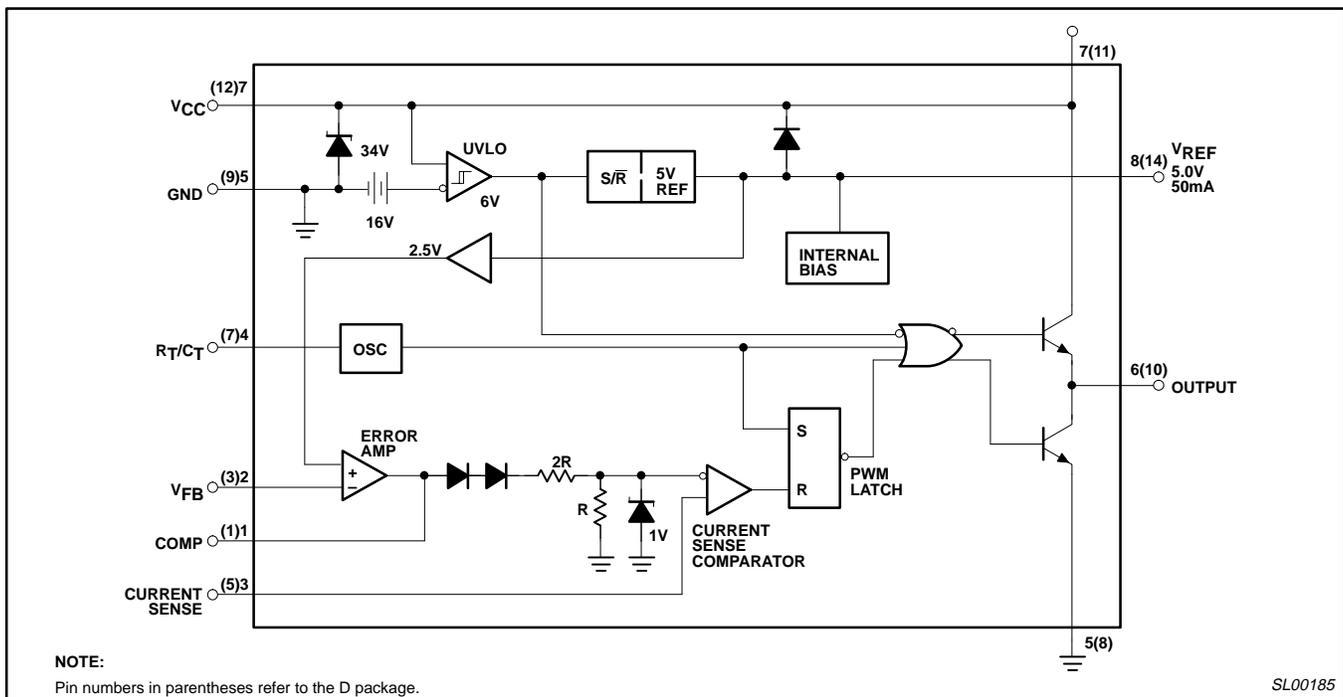

Figure 1. UC3842 Block Diagram
**Pin 1: Error amplifier output.** (See Figure 1) Closed loop gain and any additional compensation network is connected between this